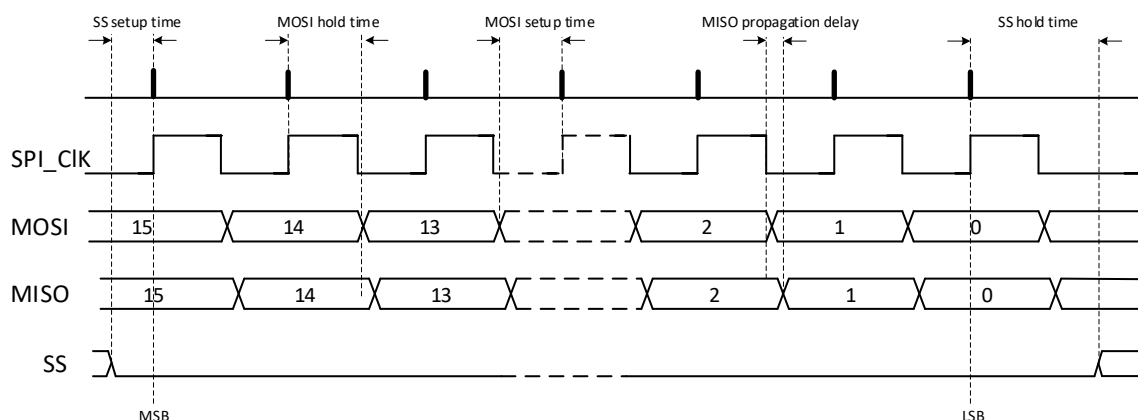

Figure 5.2: Timing diagram of SPI, CPOL=0 and CPHA=0.
The serial data transfer input (MOSI) and output (MISO) to the A111 are synchronized by the SPI_CLK. The Slave Select signal (SS) must be low before and during transactions. The MOSI is always read on the rising edge of SCLK and the MISO changes value on the falling edge of SPI_CLK (SPI mode 0, CPOL/CPHA = 0). SS requires release in between transactions. See figure 5.2 and table 5.1 for timing characteristics.